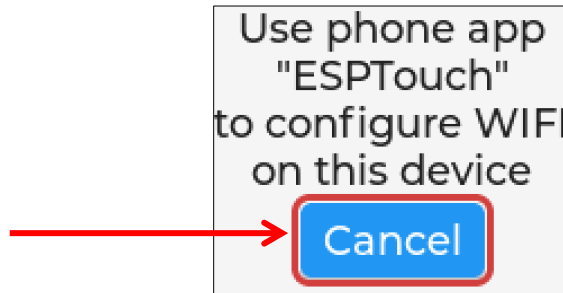

Figure 14: Configure App Screen
- When message to configure app appears, choose Cancel as this was completed in steps 2--5. See *Figure 14*.